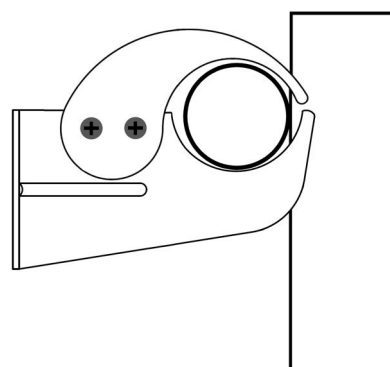

Figure 8 | Securing Safety Hook
- Close the Safety Hook over the radiator collector bar (see **Figure 8**).